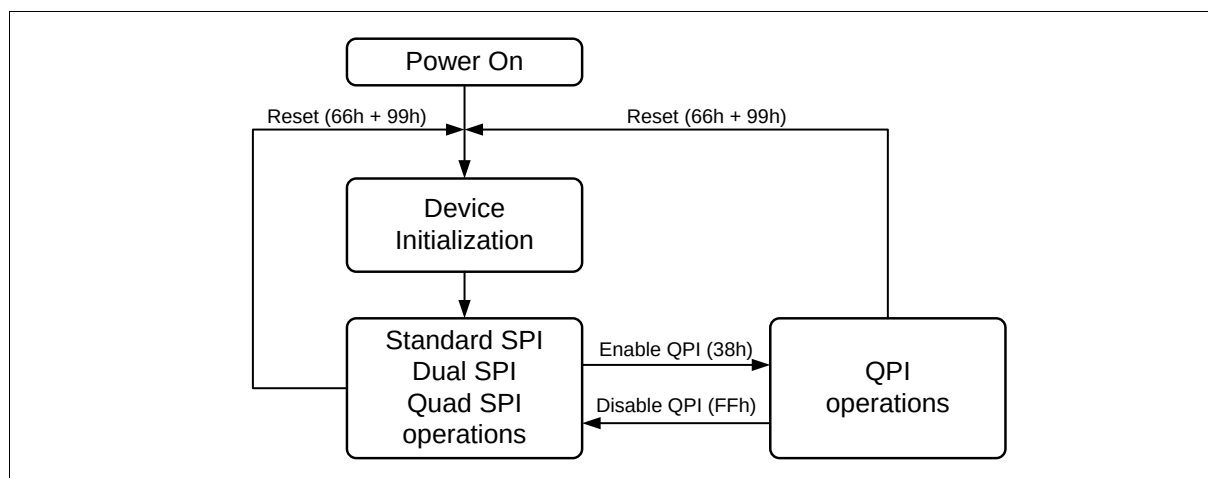

Figure 2 FM25LQ32I2 Serial Flash Memory Operation Diagram
The FM25LQ32I2 supports Quad Peripheral Interface (QPI) operations only when the device is switched from Standard/Dual/Quad SPI mode to QPI mode using the “Enable QPI (38h)” instruction. The typical SPI protocol requires that the byte-long instruction code being shifted into the device only via DI pin in eight serial clocks. The QPI mode utilizes all four DQ pins to input the instruction code, thus only two serial clocks are required. This can significantly reduce the SPI instruction overhead and improve system performance in an XIP environment. Standard/Dual/Quad SPI mode and QPI mode are exclusive. Only one mode can be active at any given time. “Enable QPI (38h)” and “Disable QPI (FFh)” instructions are used to switch between these two modes. Upon power-up or after a software reset using “Reset (66-99h)” instruction, the default state of the device is Standard/Dual/Quad SPI mode. To enable QPI mode, the non-volatile Quad Enable bit (QE) in Status Register-2 is required to be set. When using QPI instructions, the DI and DO pins become bidirectional DQ₀ and DQ₁, and the WP# and HOLD# pins become DQ₂ and DQ₃ respectively. See Figure 2 for the device operation modes.